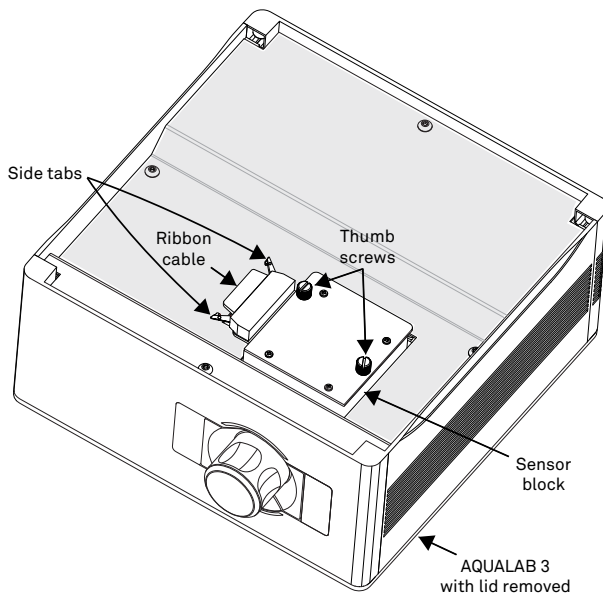

Figure 84 Sensor block in AQUALAB 3
5. Pull out on the side tabs to unplug the ribbon cable (Figure 84).